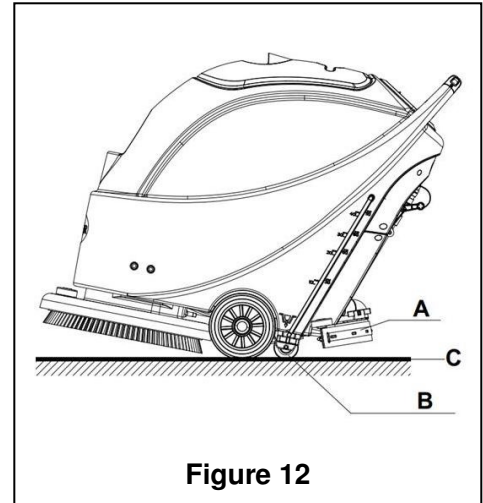

Figure 12
8. Release the safety switch (1) to turn off the brush/pad-holder and solenoid valve.
9. Press the Vacuum switch (42) to the "Off" position, and the Vacuum will delay for 5 seconds before stopping work.
10. Press the solution control switch (44) to the "Off" position to completely turn off the solution flow.
11. Press the power switch (41) to the "Off" position.
12. Use the squeegee lift handle (14) to lift the squeegee.
13. Grasp the handle (2) and gently tilt the machine backward until the guide wheel (B) touches the floor. See Figure 12.